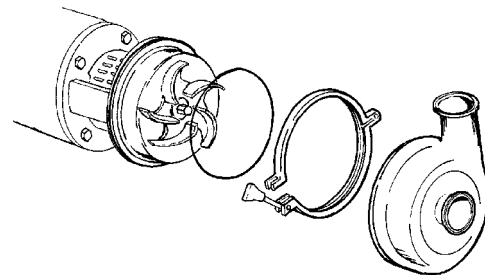

Figure 54 - Remove Casing Clamp, Casing and O-ring
2. Remove the casing clamp, casing and O-ring from the housing flange. (Figure 54).